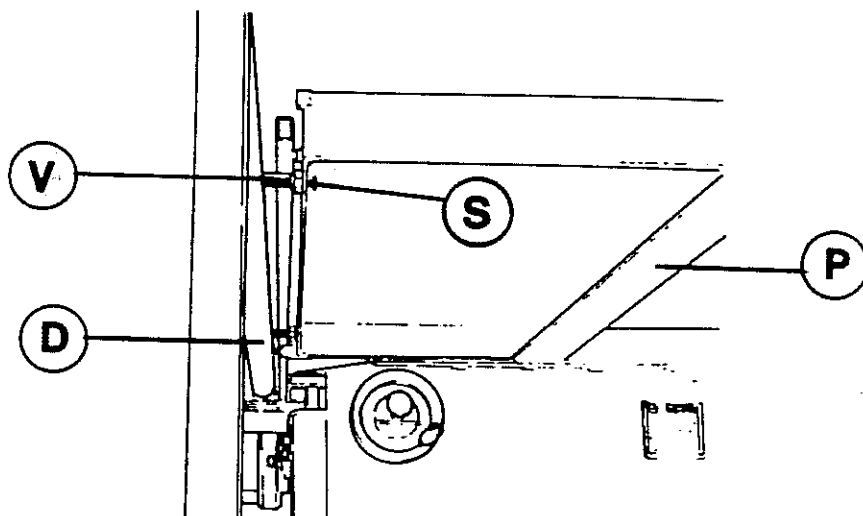

Fig.10
Fasten rod (D fig. 10) to holes (S) of the table and of the rear additional table by means of the 4 screws (V).